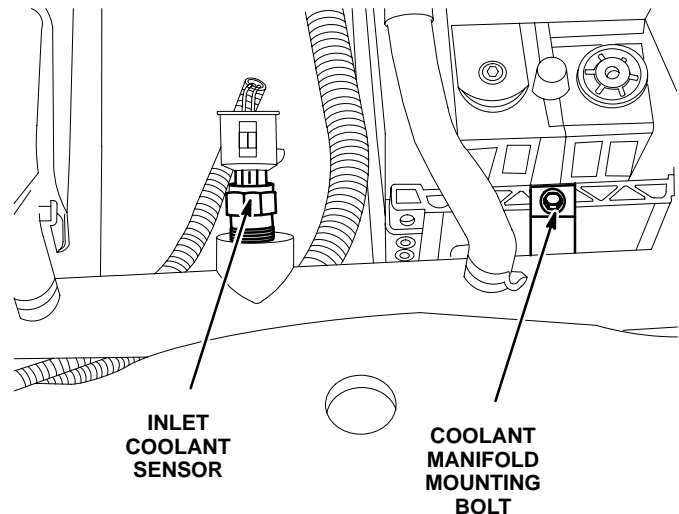

Fig. 14 Coolant Manifold Mounting Bolt
- (8) Disconnect electrical cable bus bar at module #1.
- (9) Disconnect electrical cable bus bar at module #28.
- (10) Disconnect high voltage sense lines from service disconnect to modules #1 and #28.
(11) Remove right side coolant manifold mounting bolts (2) and lift manifold to access battery spacer (fig. 14).
(12) Remove front/side battery spacer.
(13) Remove service disconnect mounting bolts (4).
(14) Remove service disconnect. Carefully feed high voltage cables through hole in battery tub.